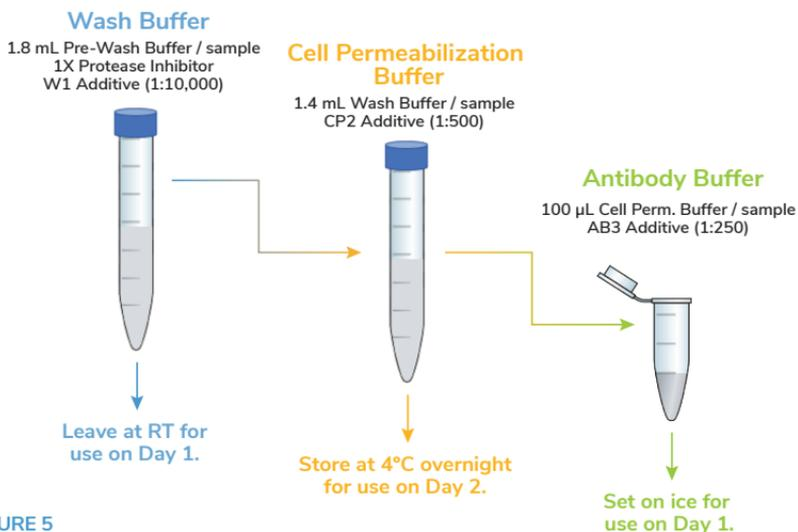

FIGURE 5
- During incubation, make CUT&RUN buffers fresh the day of use (see workflow illustrated in Figure 5 and volume scaling table, right). Add 1.8 mL of **Pre-Wash Buffer** per sample to a single conical tube labeled "Wash Buffer".